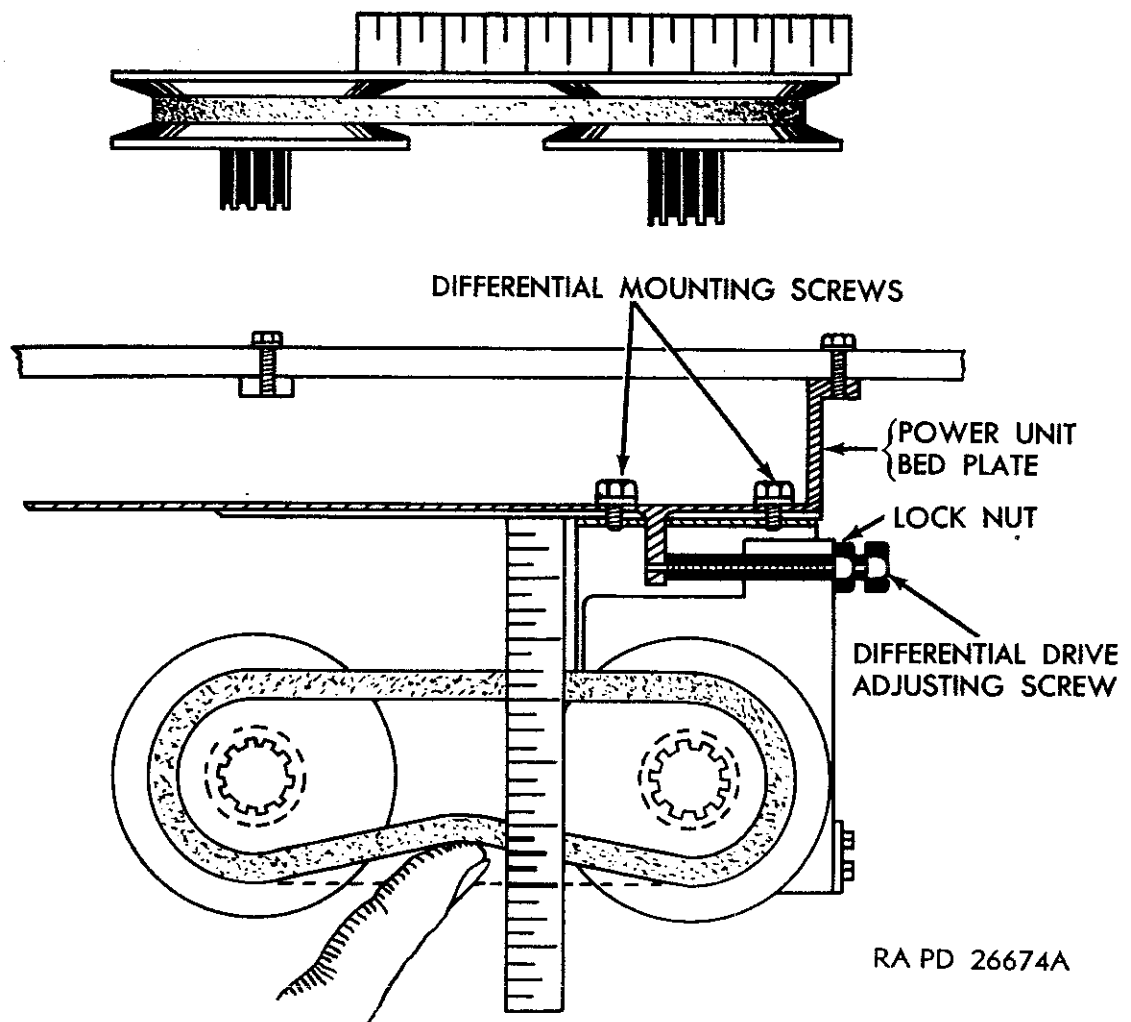

Figure 66. Testing pulley belt tension.
- (1) Assemble in reverse order of disassembly.
- (2) Test belt tension (fig. 66 and par. 62c).
can be displaced more than one-half inch from either pulley, it must be adjusted as described in (1) through (6) below (fig. 66).
- (1) Loosen mounting screws of differential drive involved.
- (2) Loosen lock nut on differential housing and turn the differential drive adjusting screw clockwise.
- (3) Test tension of belt.
- (4) Repeat adjustment until proper tension of belt is obtained.
- (5) Tighten lock nut of differential drive adjusting screw.
- (6) Tighten differential mounting screws located under seat.